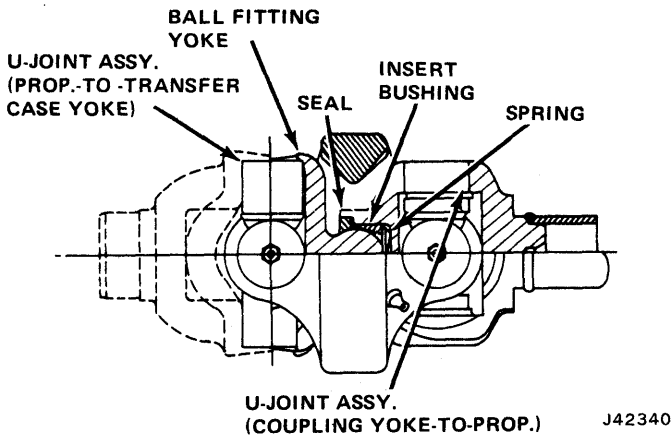

Fig. 10-74 Double Cardan Joint
**NOTE:** Repair of single and double Cardan joints are similar except for the center ball and socket in the double Cardan joint (fig. 10-74). The rollers and bushings are replaceable once the joint is disassembled.
(1) Position tube or propeller shaft, near cross-type universal joint, in vise and clamp tightly.
(2) Remove two cup retainer rings, which fasten bearing cups to tube yoke. If necessary, tap ends of bearing cups with brass hammer to release pressure on retainer rings before removal.
(3) Mount joint in vise so that ears on one yoke are supported on vise jaws.
(4) Using brass hammer, strike ear of yoke behind bearing to drive bearing out. Remove opposite bearing in same manner.
(5) Remove cross from yoke.